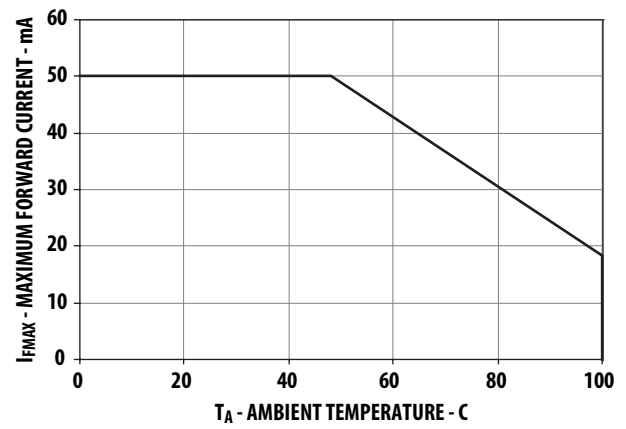

Figure 4. Maximum Forward Current vs Ambient Temperature
2. Derate linearly as shown in Figure 4